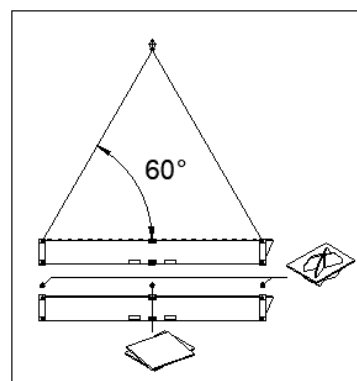

Figure 2
5. Between the individual waste tanks (for 10' and 20'), centering elements (stacking cones) must be used on the outer container corners and support shims (only for 20') must be used in the middle between the roof and floor side rails, see Figure 2.